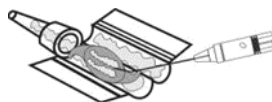

Fig.04
- Applying a few drops of BS solution on the surface of the lens, as in Fig.04, will help to keep the lens in hydrated condition. Especially for the Hydrophilic, this is helpful.